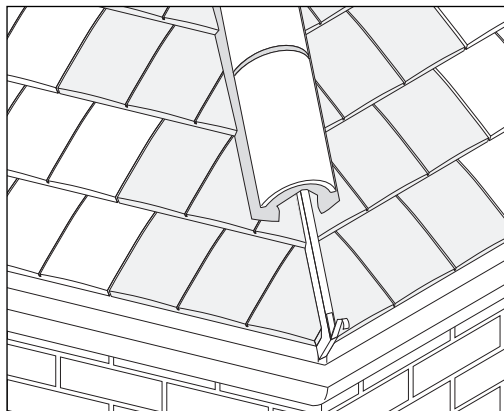

Fig 28 - Typical bedded hip using third round ridge units as hip capping
- 3 Fix a hip iron at base of hip rafter and shape first hip tile at front to align with tiling at the eaves (Fig 28).